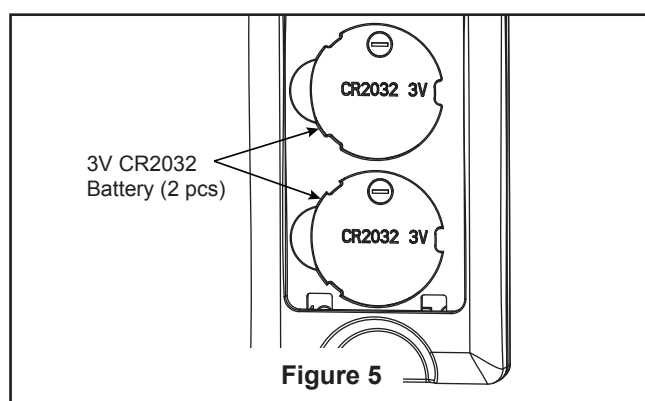

Figure 5
- ☐ 5. Assemble the LED assembly to the light housing assembly using the two key slots. Replace the previously removed screw and securely tighten all three screws. (Figure 5)
- ☐ 5. Install two 3V batteries in hand-held remote transmitter, with fan power off. (Figure 5)